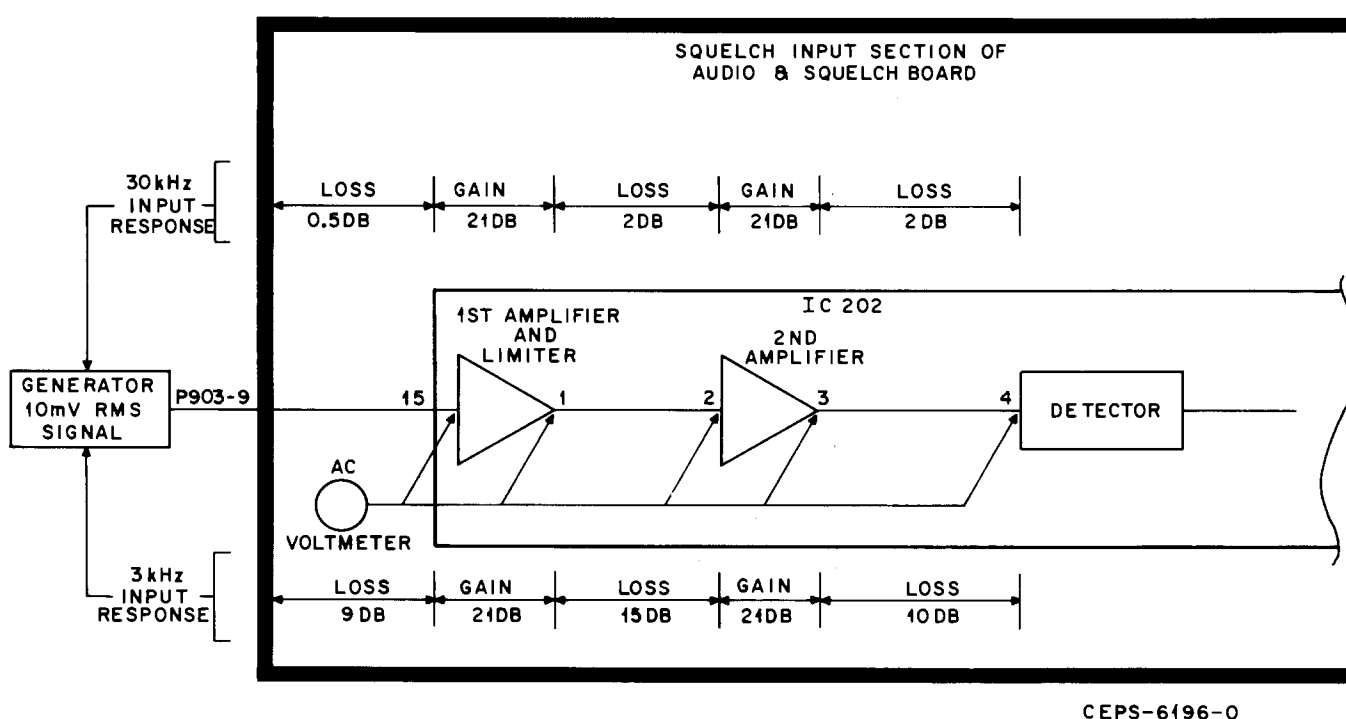

Figure 6.
5. Take loss and gain measurements or signal level measurements as required. Refer to Figure 6 and the ac measurement and stage gain table.